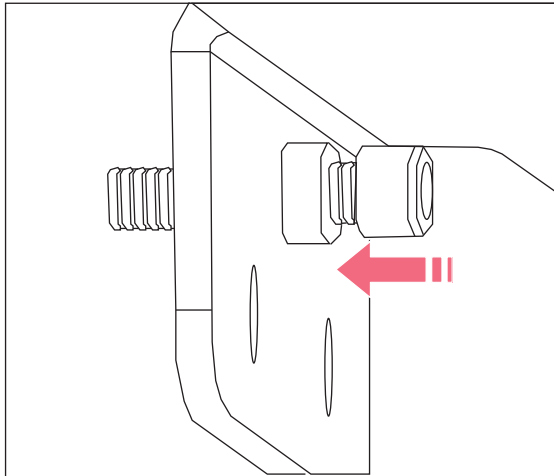

Fig. 4-14: Screw
2. Insert screw as shown (see Fig. 4-14 on p. 29).